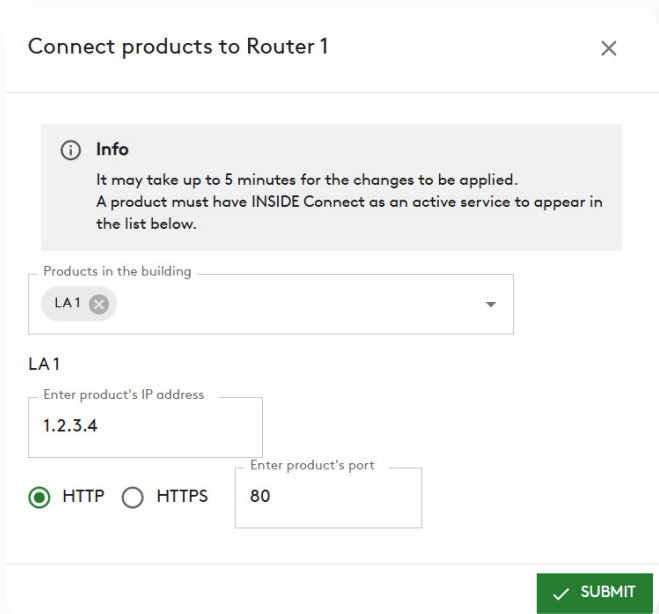

Figure 14. Fill in information regarding IP address and port settings.
- 3. Press the **SUBMIT** button (fig.14).